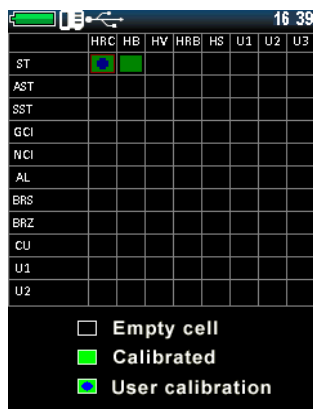

Figure 2.40 - User calibration marking
9. The saved user calibration will be marked with a special state of the cell (Figure 2.40).